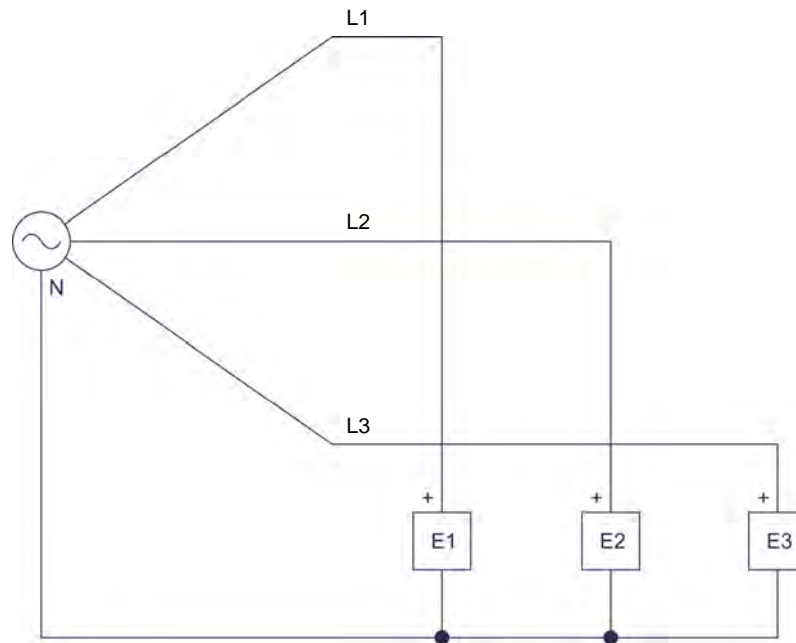

Figure 6-24. Circuit set up for determining the phase sequence of the three-phase ac power source in the Power Supply.
5. Set up the circuit shown in Figure 6-24.